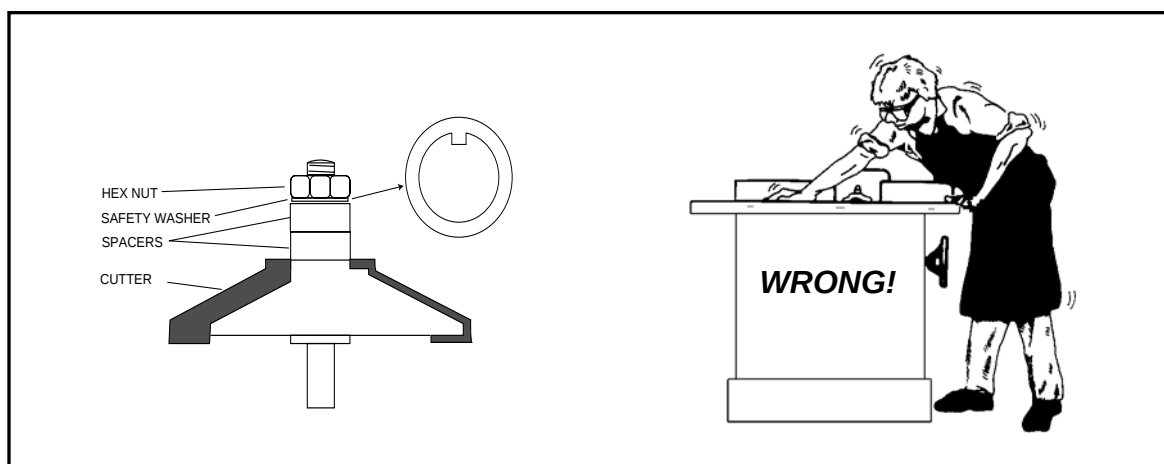

Figure 9
18. **SAFETY LOCK NUT.** Never operate the Model G1026 Shaper without the second locking nut in place over the spindle nut. See Figure 9.